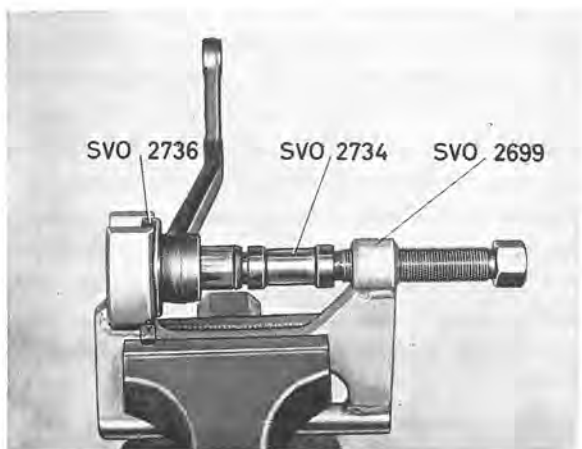

Fig. 6-49. Removing rubber bush, relay arm
4. Secure press tool 2699 in a vice and press the bush out with a counterhold 2736 and drift 2734 (see Fig. 6-49).